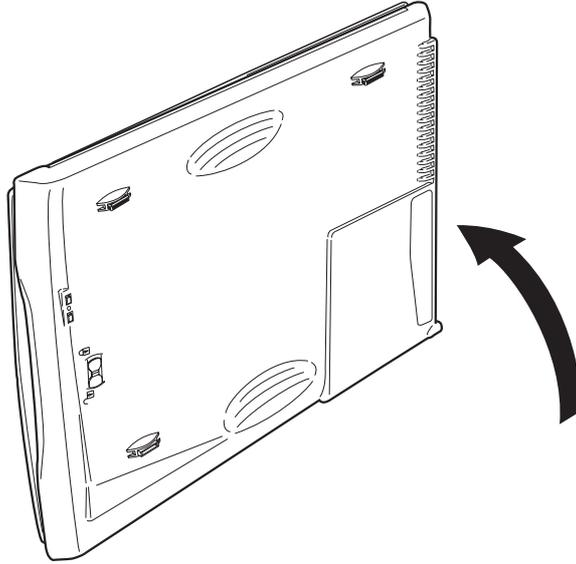

Figure 1-5
- 1) Turn the scanner over as shown in Figure 1-5.